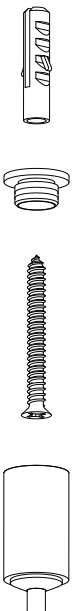

Fig. 4
1. Install the mounting bracket to the ceiling with anchor and screw, then screw the post onto the mounting bracket. (Fig. 4)